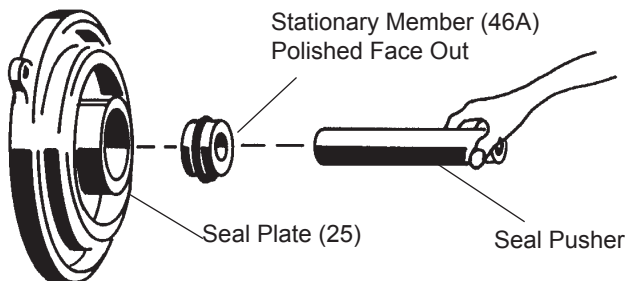

FIGURE 4
Seal - Clean and oil seal cavity in seal plate (25). Press stationary member (46a) firmly into seal plate (25), using a seal pusher, nothing but the seal pusher is to come in contact with seal face (see Figure 4). Make sure the stationary member is in straight.